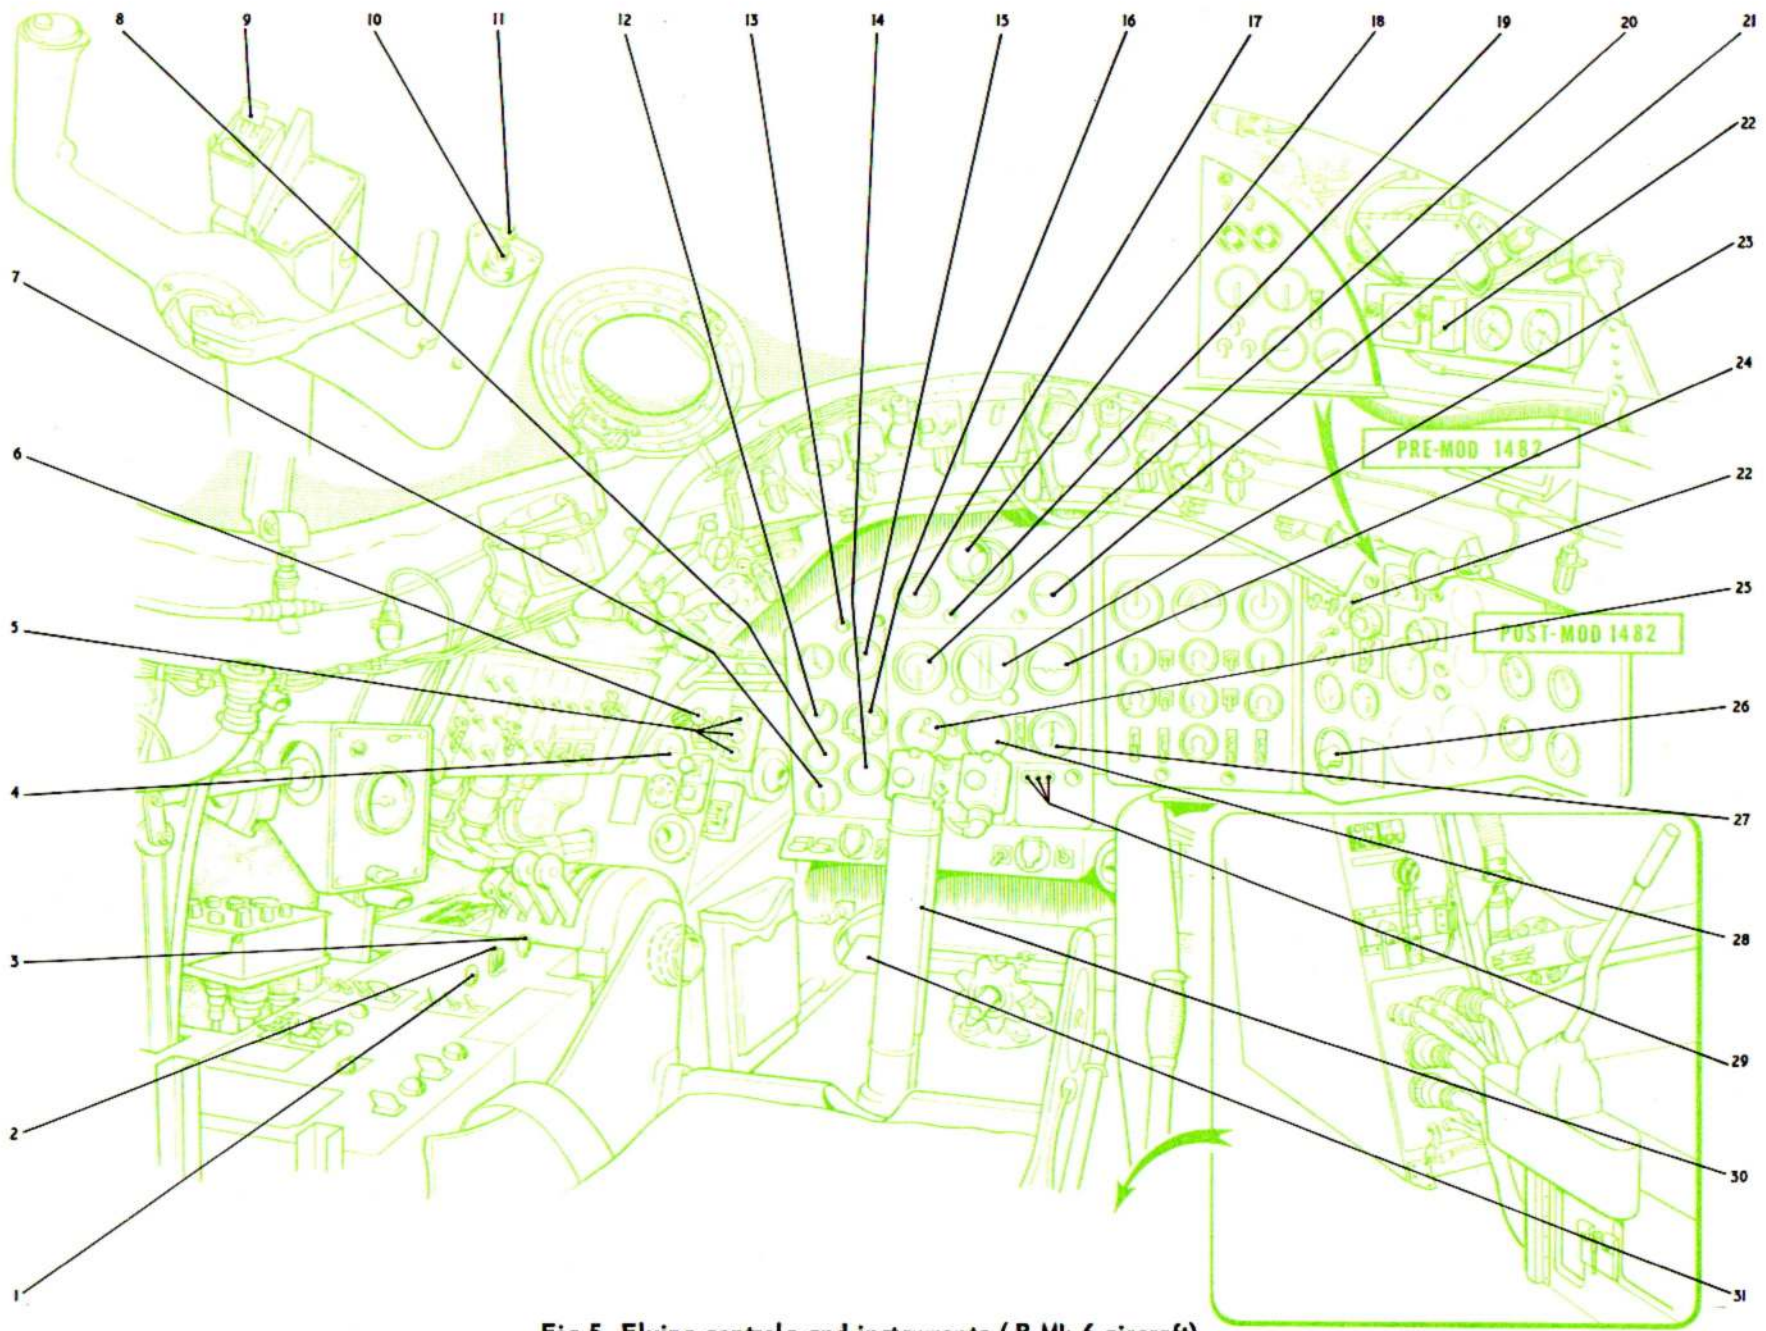

Fig.5 Flying controls and instruments ( B Mk.6 aircraft)
**KEY TO FIG.5 (FLYING CONTROLS AND INSTRUMENTS – BMK.6 AIRCRAFT)**